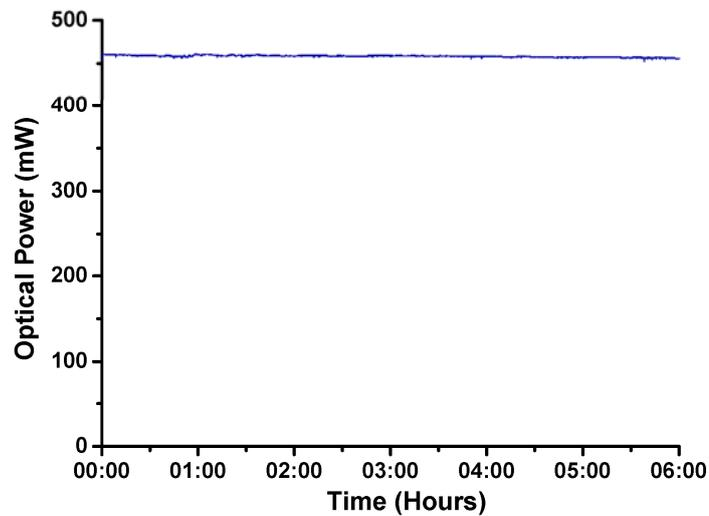

Fig. 19 Stability graph
74. Femtosecond operation starts from moving of optical elements. Once started, femtosecond operation should last for hours at good pump laser stability and in stable room conditions ($\pm 2^{\circ}\text{C}$) *Fig. 19*. When femtosecond operation disappears, start it again with mechanical movement of P2 or turn on the Electronics module \(Starter\).
3. Ti:Sapphire will give proper characteristics after 30 minutes of warm-up if you use a standard pump laser. Pump power should be stable from day to day (*Fig. 19*).